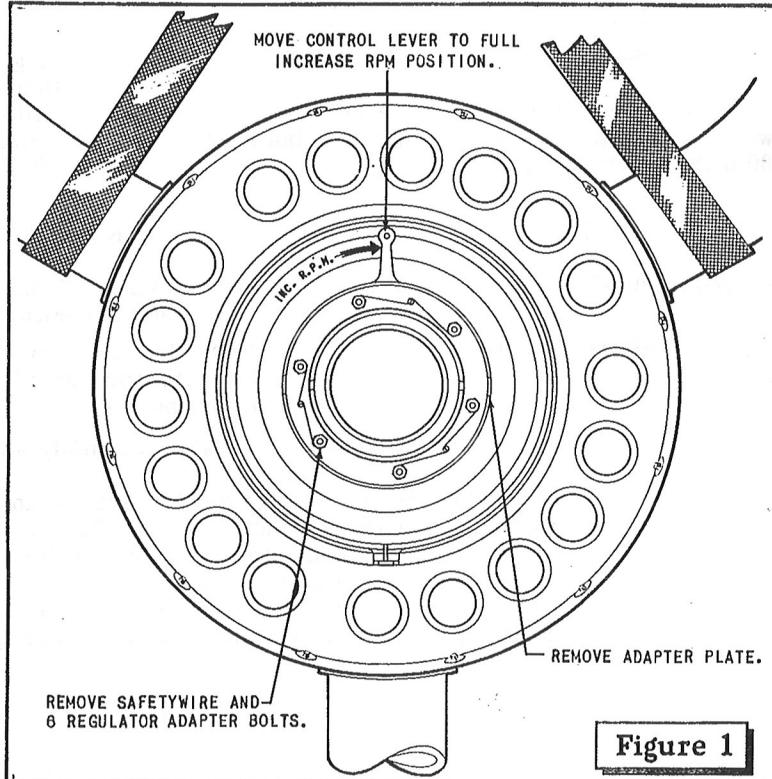

Figure 1
- b. Move the control lever to the "INCREASE R.P.M." position. (Full travel clockwise.) (See figure 1.)
- c. Remove the safety wire from the regulator adapter bolts. Use a 7/16-inch speed wrench and remove the six regulator adapter bolts. (See figure 1.)